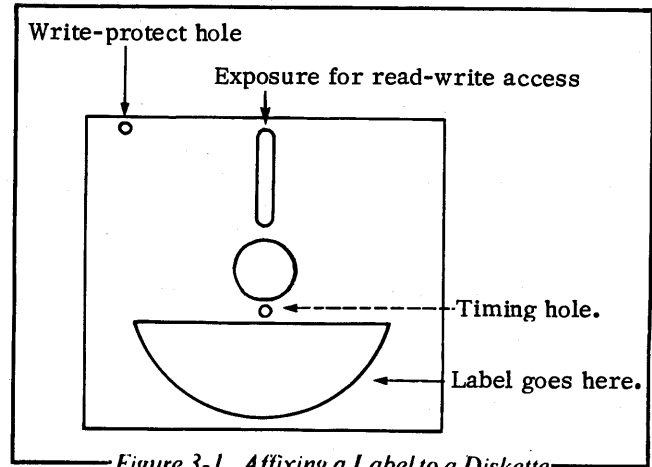

Figure 3-1. Affixing a Label to a Diskette
- If there is no label on the inner envelope, affix one. Lay the diskette down with the write-protect hole facing away from you and apply the label as shown in Figure 3-1.